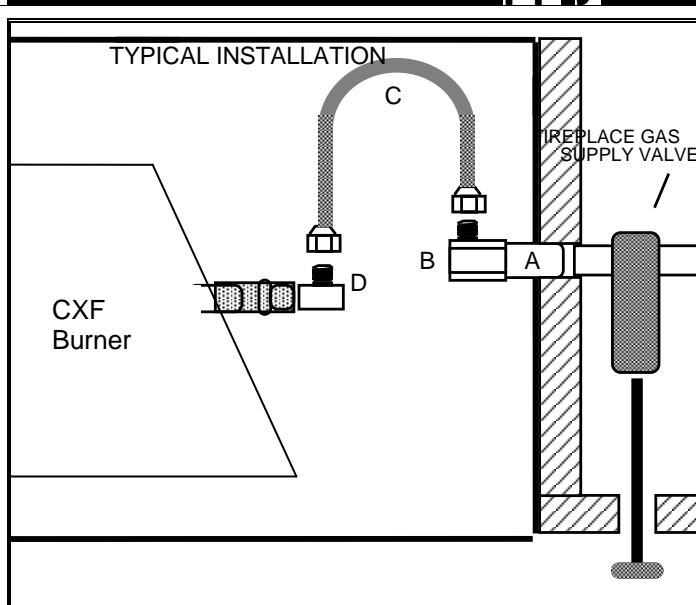

Figure 5
2. With **BURNER PAN** inside firebox, thread (without pipe compound) one end of the **ALUMINUM CONNECTOR TUBE (C)** to the **1/2" FIP x 3/8" FLARE ELBOW (B)** and wrench tighten.
3. Carefully bending **ALUMINUM CONNECTOR TUBE (C)**, align and connect, without pipe compound, to the **FLARED BURNER INPUT FITTING (D)**. Wrench tighten. Figure 5